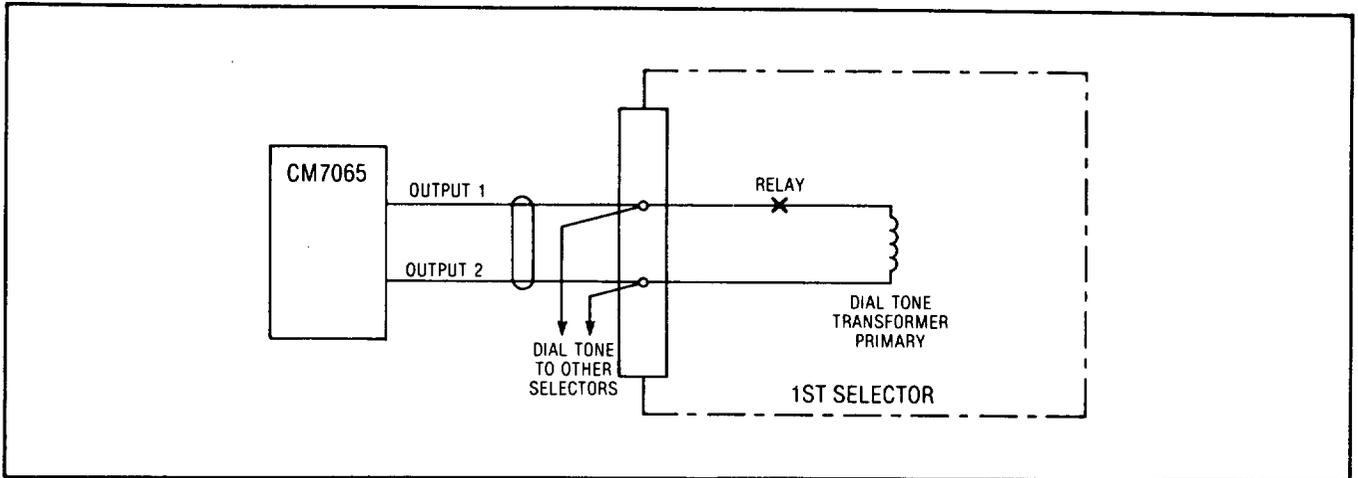
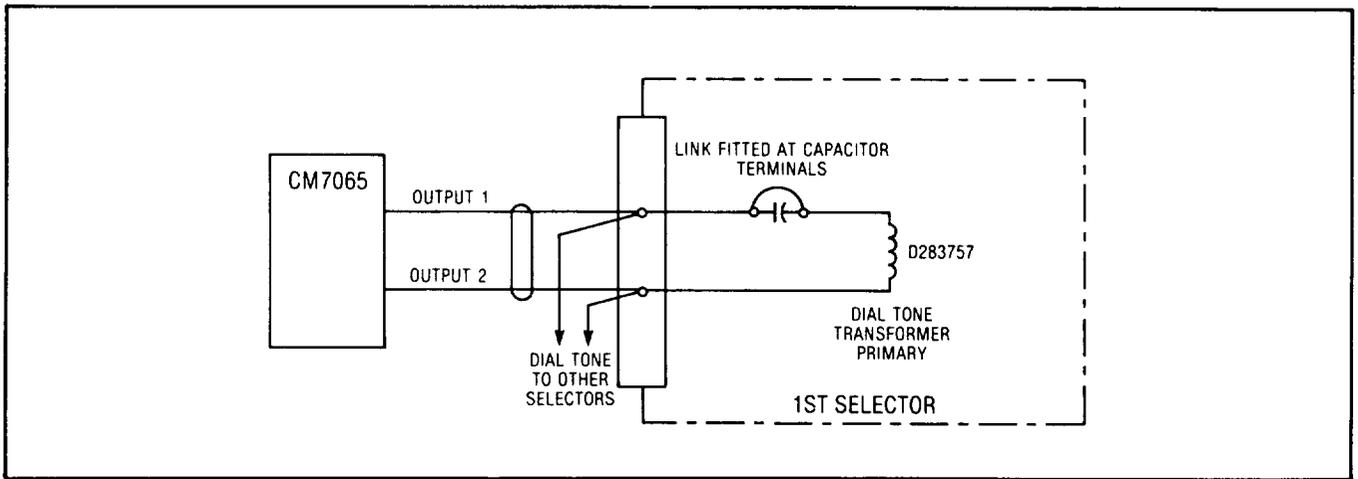
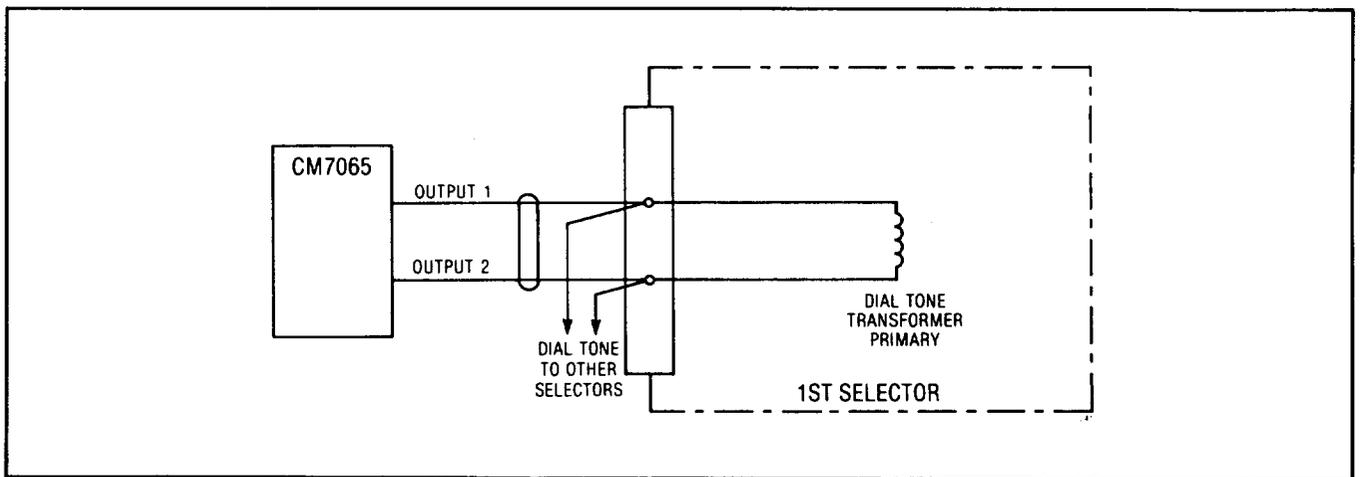

Fig. 7 1st Selector Connections: Western Electric
Fig. 8 1st Selector Connections: Automatic Electric
Fig. 9 1st Selector Connections: Stromberg Carlson
**3.09** Output connections made depend on the type of CO equipment. Connections to Western Electric equipment are shown in Fig. 7; to Automatic Electric equipment in Fig. 8; and to Stromberg Carlson equipment in Fig. 9.